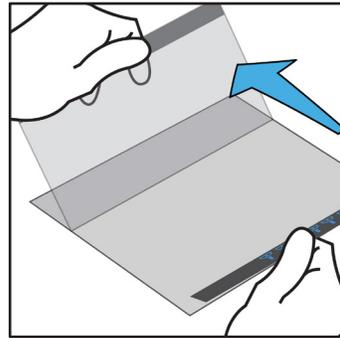

Figure 5
10. Remove the drape's release liner starting with tab A (**Figure 5**). Invert and place over the foam and peri-wound